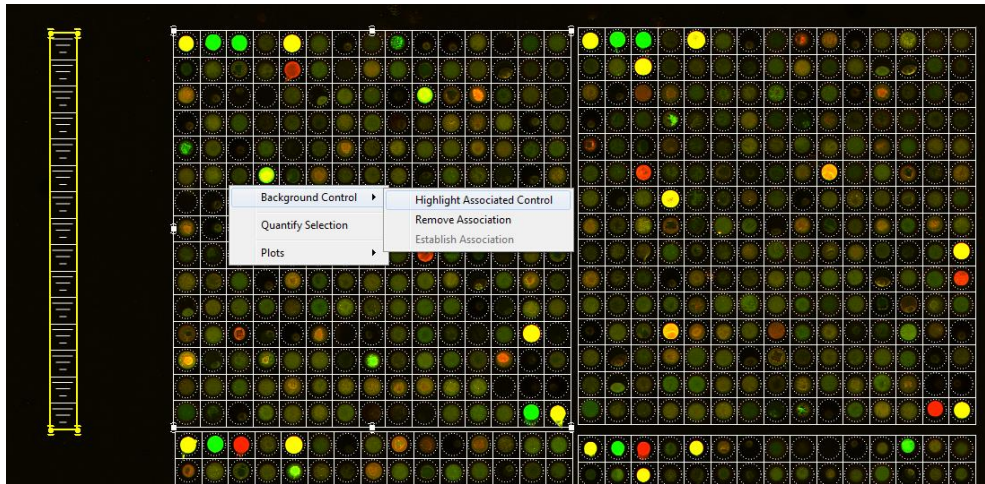

Figure 21: Associated Background Control.
- Right-click on the block again and choose *Background Control > Establish Association*. Then click on the background control with which you want to associate this block. You can check this association using the *Highlight Associated Control* context menu (Figure 21).